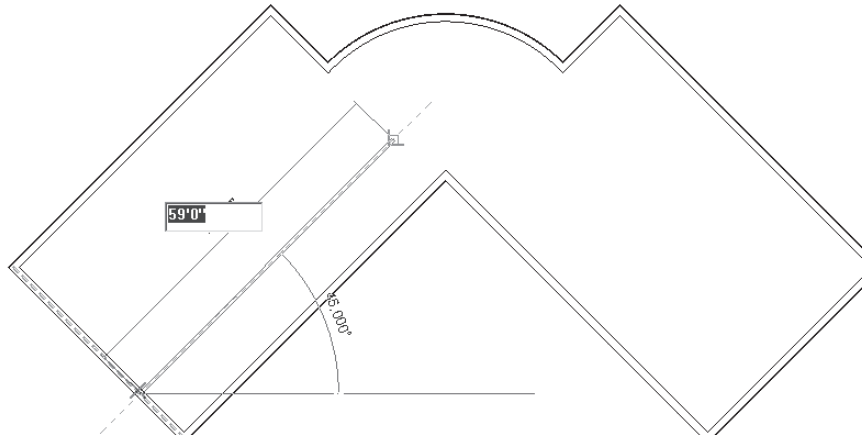

Figure 3-66 *Sketching the first interior wall of the Club project*
4. Move the cursor 45-degree upward to the right. When a dashed line and the perpendicular object snap symbol appear, enter the value **59'0"**, as shown in Figure 3-66.